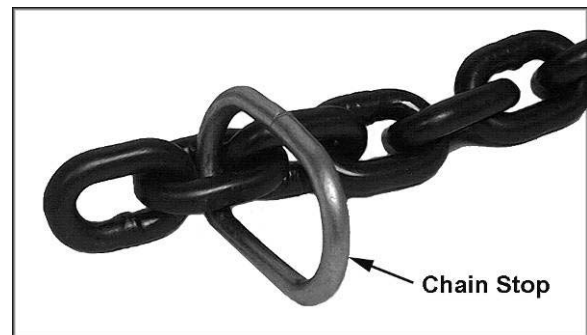

Figure 2
- A chain stop must be attached to the second-to-last link on the slack end of the chain. See Figure 2 for an example.